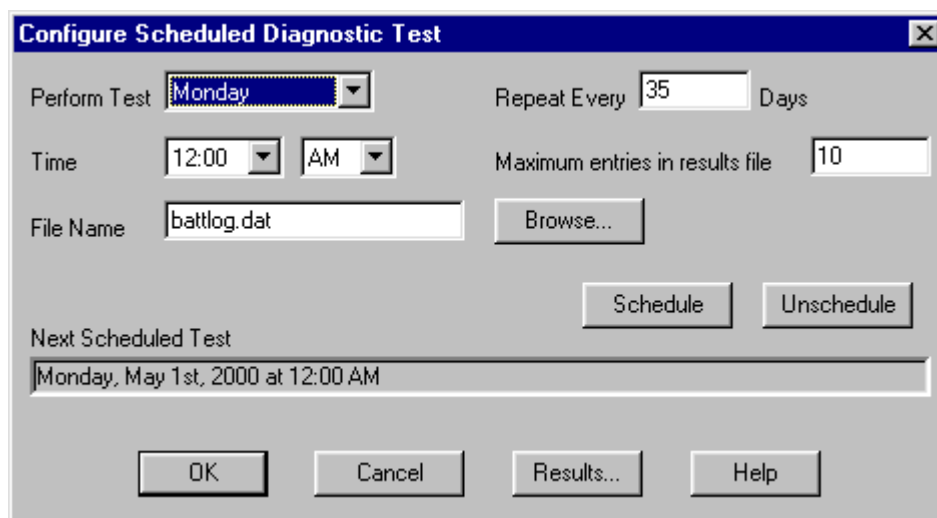

Figure 41. Configure Scheduled Diagnostic Test Dialog Box
1. On the Toolbar click , or from the Configure menu choose Scheduled Diagnostic Test. The Configure Scheduled Diagnostic Test dialog box opens (see Figure 41).